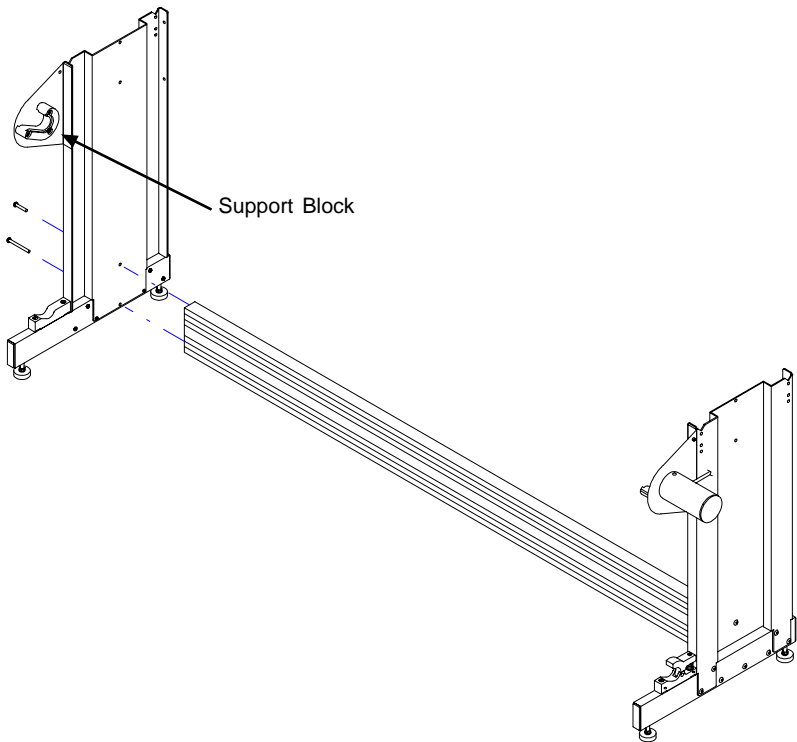

Figure 4. Attaching the left leg assembly to the lower crossmember.
2. Connect the left leg assembly to the free end of the lower crossmember using the hardware as noted above. Leave the screws slightly loose. The support block on the left leg should be on the same side as the crossmember as shown in *Figure 4*.